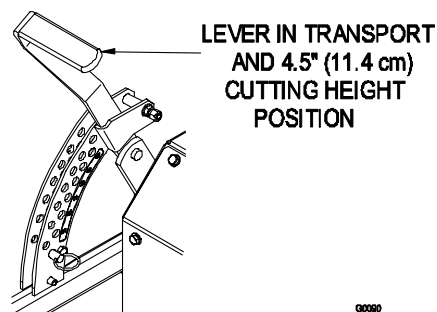
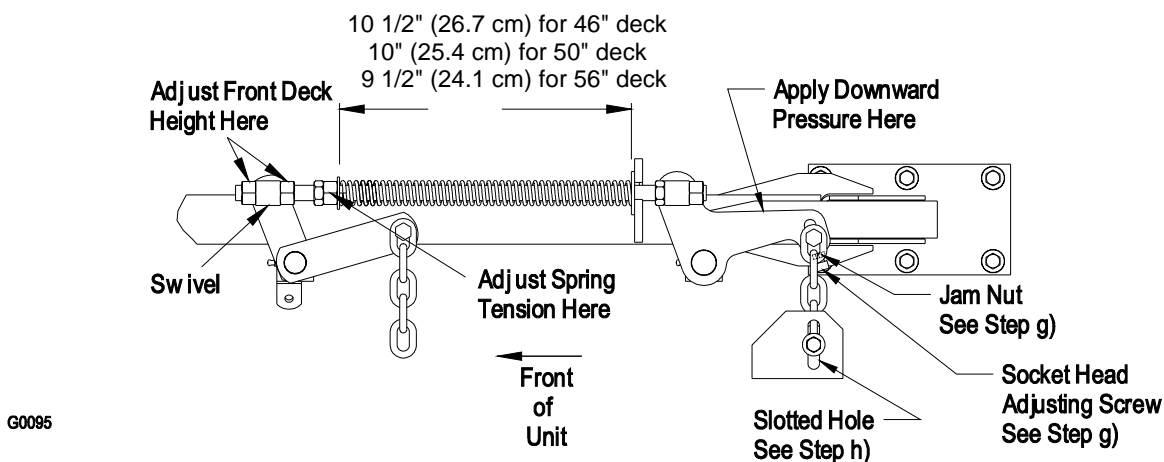

FIGURE 5
FIGURE 7
- c) Raise the deck lever to the transport position (also the 4.5" (11.4 cm) cutting height position). See Figure 5.
- e) Raise the deck to the 4.5" (11.4 cm) height position and take as much force as possible off of the two large deck lift springs by loosening the nuts at the front of each spring. See Figure 7.
- g) Loosen the two (2) top chain bolts in slots in the rear deck lift arms. Loosen jam nuts and back off the socket head adjusting screws on the bottom of the arms until the chains are just loose when pressure is applied to force rear deck support arms down. See Figure 7. Continue to press down on rear deck support arms and turn the socket head adjusting screws in until slack is taken out of each chain. Tighten the jam nuts. Tighten the chain bolts in the deck lift arms making sure they do not move while tightening.
- h) Loosen four (4) nuts which secure front swivels (two per side), until front chains are loose and front of deck is supported by the 1-1/8" (2.9 cm) block. Do not loosen front chain hardware.
- k) Raise deck lift lever to the 4.5" (11.4 cm) cutting height position (also transport position, See Figure 5. Adjust spring compression until proper distance is obtained between the two washers (See Figure 7) by turning the nut at the front of each spring. Lock nuts in position with jam nuts.